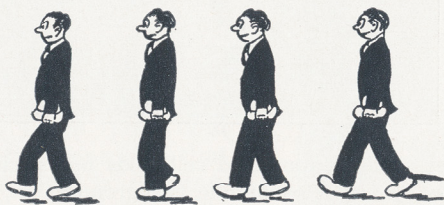

Fig. 20—Dividing a Step into four distinct motions.
**FURTHER ANIMATING**—Now let us take, for example, a figure walking, probably the most common action occurring in an animated cartoon. One step can be divided into four distinct motions as in Figure 20. Trace one of these on each of four celluloids, keeping the head in exactly the same spot on each celluloid and number consecutively. If a package or similar load is put in the figure's exposed hand, it will not be necessary to draw an additional four celluloids showing the advance of the other leg. The arm, of course, would not swing and the trouser legs would have to be black as in the illustration.